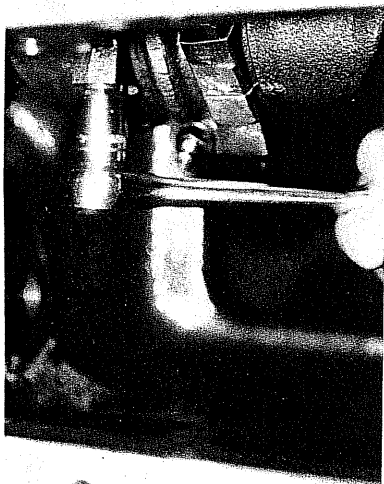

Fig. 38 Loosening Connecting Rod Retainer Bolt
- c) Remove the No.1 and No.2 nuts securing the rod big end. Be careful not to drop the washers into the crankcase when performing this work (Fig. 38).